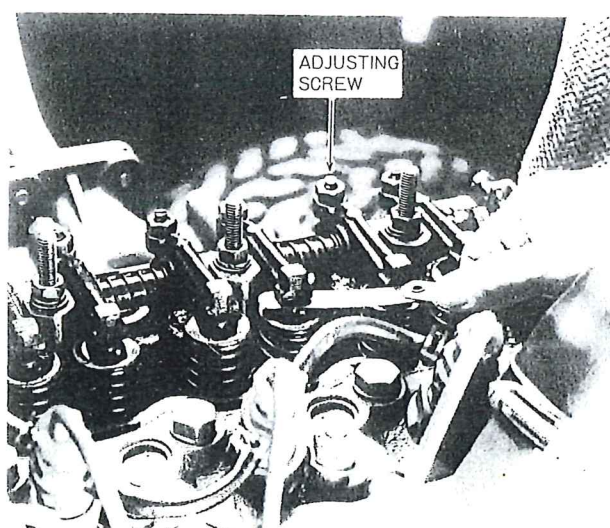

Figure 60 – Checking Valve Clearance
2. Check the clearance of each valve with the feeler gauge, Figure 60.